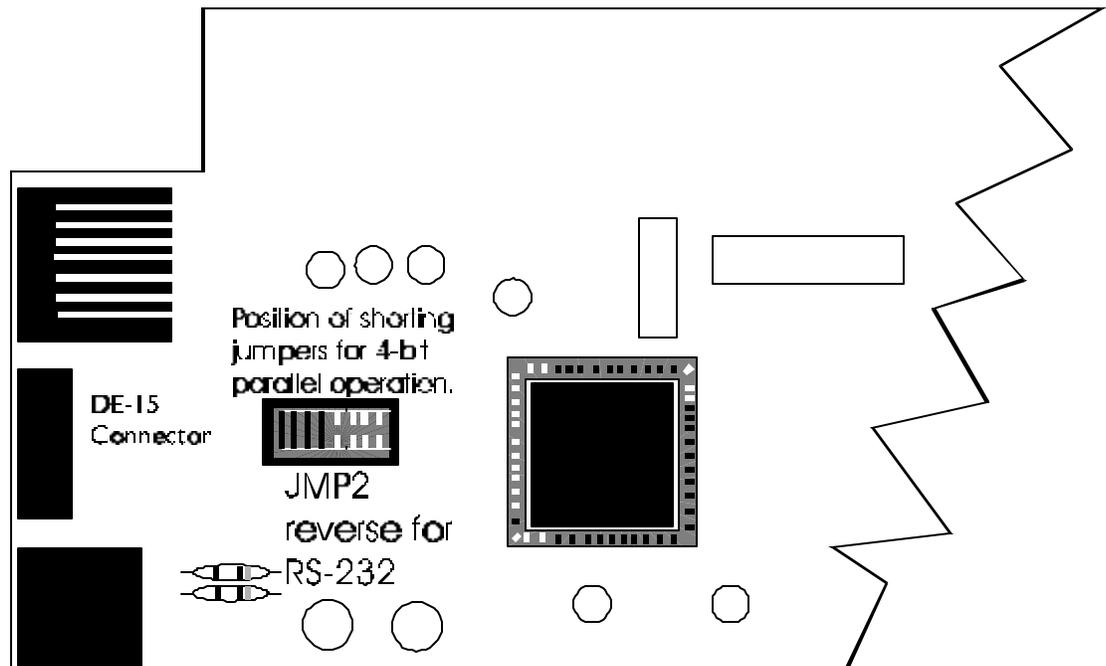

Figure 4
2. Place the jumper so the shorting pins are located away from the DE-15 connector at end of the PC board. See figure 4 below.